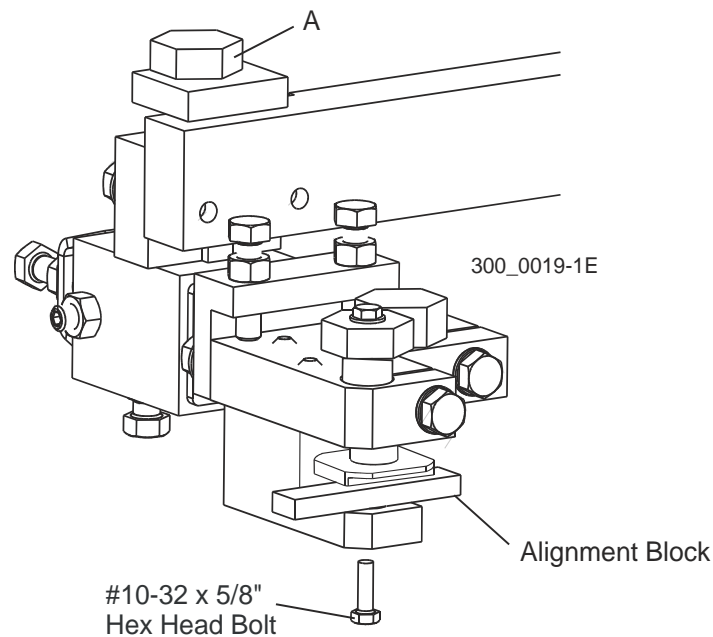

FIG. 7-34
**See Figure 7-34.** Attach the blade guide arm alignment tool to the blade guide arm, near the outer blade housing. Measure the distance from the back edge of the blade to the tool. Move the tool to the end of the arm near the blade guide. Measure again from the back edge of the blade to the tool. The two measurements at each end of the arm should be the same within 1/32". To adjust the horizontal tilt of the arm parallel to the blade, adjust the bolts (A & B) on the blade guide arm mounting plate. Loosen the jam nuts. Adjust bolt (A) out and bolt (B) in to move the arm away from the blade. Adjust bolt (B) out and bolt (A) in to move the arm toward the blade. Recheck the distance from the back edge of the blade to the tool at both ends of the arm. Readjust if necessary. Tighten the jam nuts.